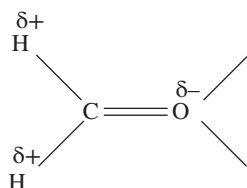

FIGURE 1.14 Structure of formaldehyde (methanal), a polar molecule
- has partial charges, distributed asymmetrically across the molecule (Figure 1.14).